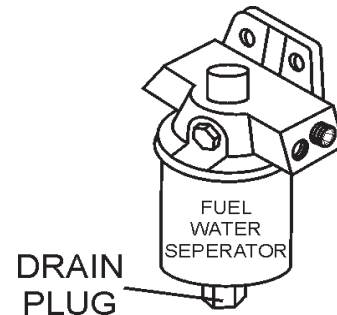

Figure 19. Fuel Water separator Filter
1. Inspect the fuel water separator (Figure 19) every 40 hours. If the fuel water separator requires maintenance follow steps 2 and 3 below: